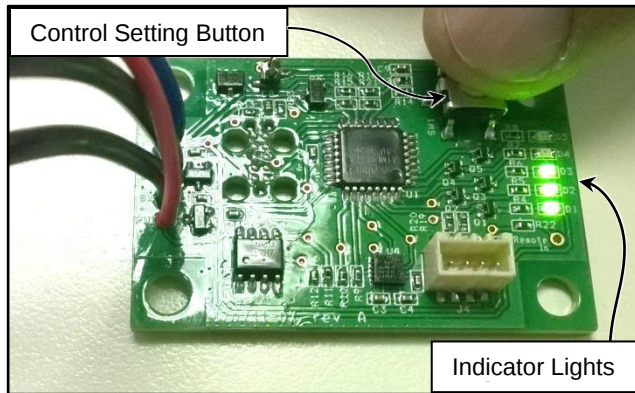

Figure 46
6. Check to see what the current setting is on the Impact Sensor. Do so by quickly pressing and releasing the Control Setting Button. The factory setting is @ 3. The indicator lights will light up as shown for approximately 3 seconds. (See Figure 46)
6. RESET the Impact Sensor by depressing the Control Setting Button and holding it down until the level indicator lights (D1 thru D5) turn on and then turn off. (See Figure 46)